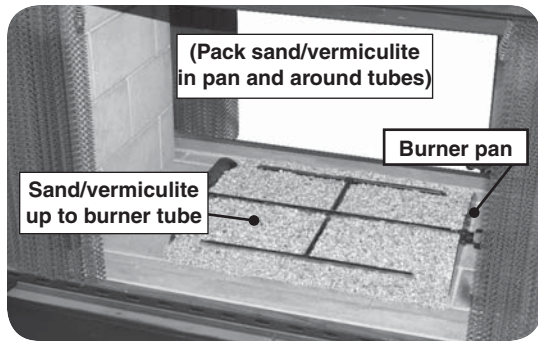

Fig. 17-1
1. Pour the sand/vermiculite into the pan until they just cover the burner tubes. Then pack the sand/vermiculite in the pan and around the burner tubes. Add additional sand/vermiculite as needed to end with the sand/vermiculite **level** with the top of the burner tubes. Slope the sand/vermiculite in the front portions of the pan. See Fig. 17-1 and Fig. 17-3.